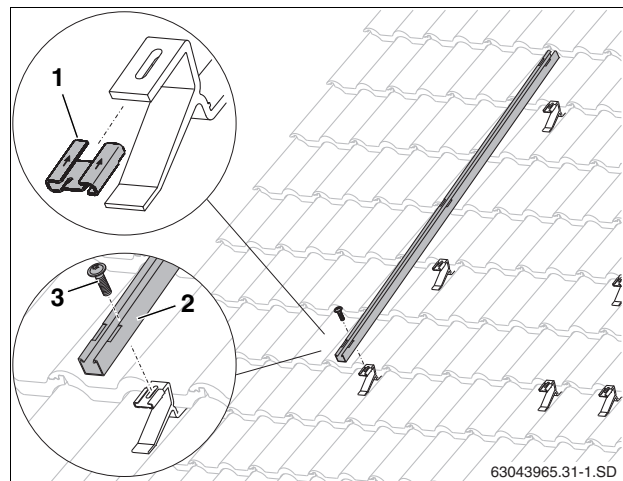

Fig. 26 Attaching the vertical rails
- Push threaded clip (Fig. 26, [1]) onto the roof hook in the direction of the arrow.
- Place the vertical rail (Fig. 26, [2]) onto the roof hooks and tighten the M8 screws (Fig. 26, [3]).